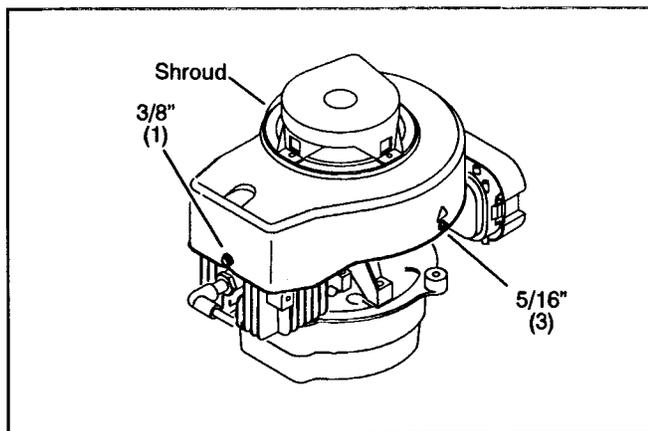

Figure 55
2. Remove the four screws that secure the shroud to the shroud base (**Figure 55**). Note that the front screw is a 3/8" hex while the other three are 5/16" hex.